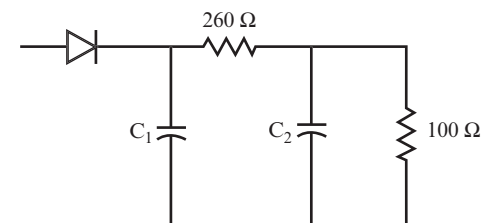

FIGURE 11.42
22 Figure 11.42 shows the half-wave rectifier circuit with the 260-ohm value you calculated for R_1 .
A. How long should the discharge time constant be for the circuit in Figure 11.42?